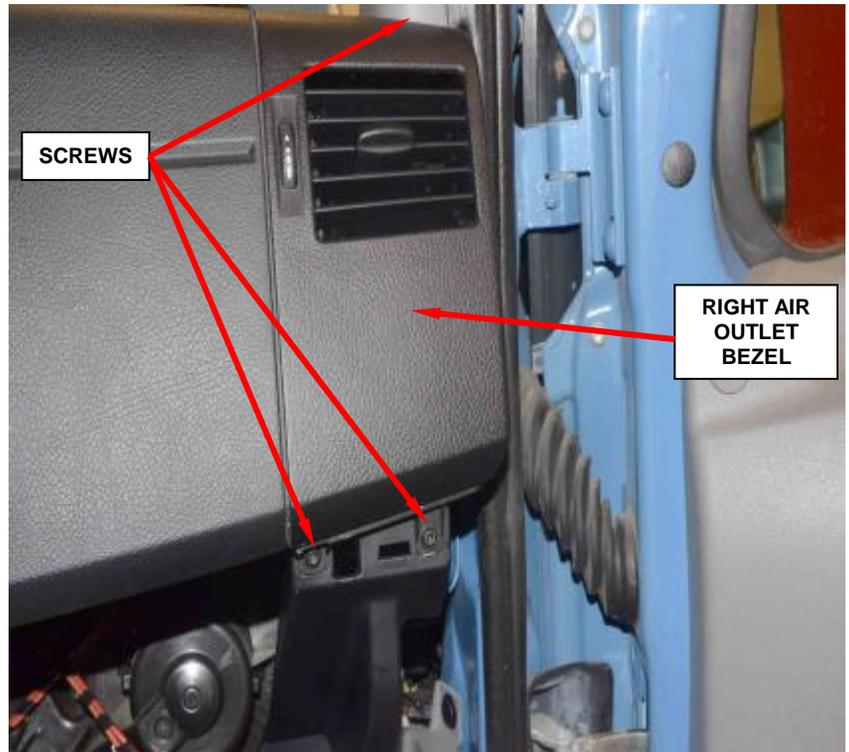

Figure 7 – Right Air Outlet Bezel
10. Remove and save the three right side air outlet bezel screws and remove the right air outlet bezel (Figure 7).
29. Position the right air outlet bezel to the instrument panel and install the three screws. Tighten the screws securely (Figure 7).